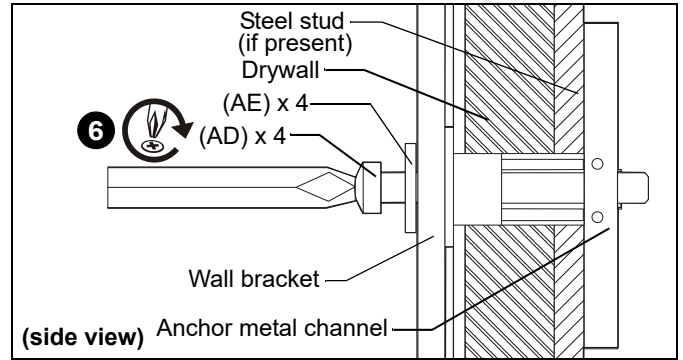

Figure 23
6. Insert 1/4-20 x 1-3/4" Phillips pan head screw (AD) through 1/4" washer (AE), corresponding mounting hole in wall bracket and into anchor (AC), and tighten until flush against wall bracket. DO NOT over tighten! (See Figure 23)